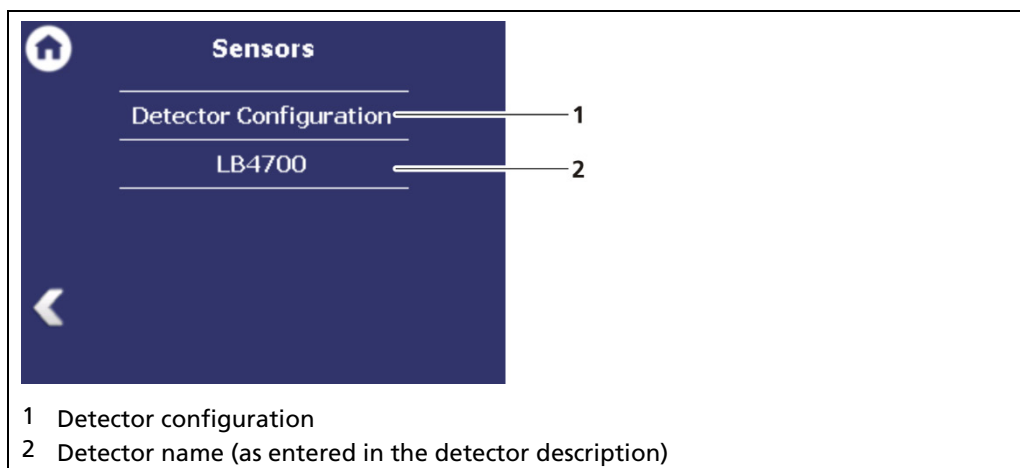
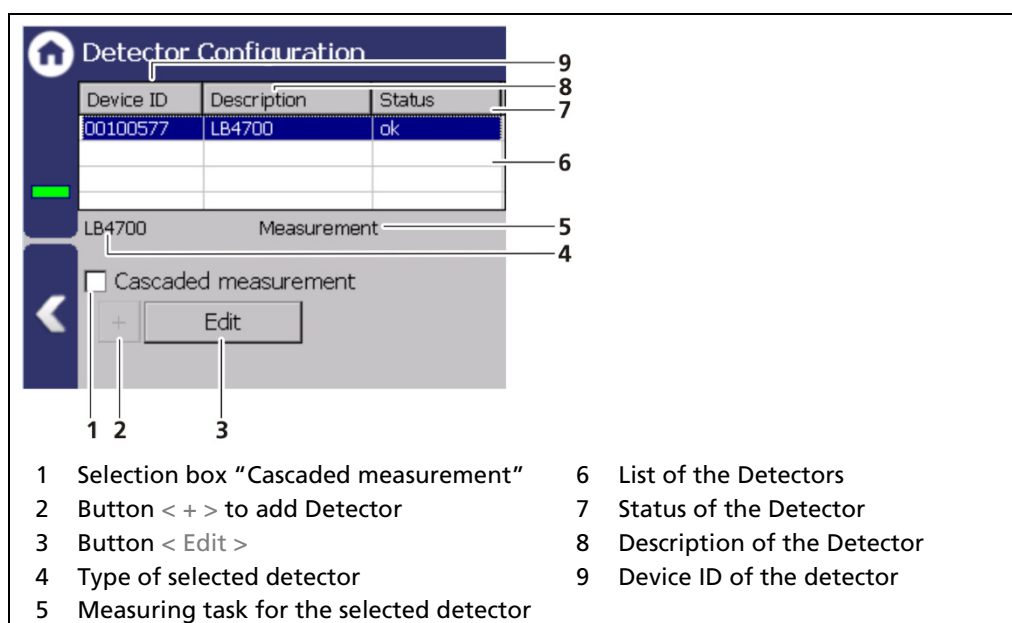

Fig. 53 Menu "Sensors"
Fig. 54 Detector Configuration
- Detector configuration (Fig. 53, item 1)
- Configuration of the respective detector (Fig. 53, item 2)
In the window "Detector Configuration" the detectors for the measuring system are added and configured. Only configured detectors are listed and shown in the menu (Fig. 53). When a detector is selected (Fig. 54, item 6), the detector type (Fig. 54, item 4) and measuring task (Fig. 54, item 5) are shown.
Clicking the box <Edit> (Fig. 54, item 3) selects the type of detector and changes the description. The boxes <+> and <-> can be used to add and remove detectors for cascading measurement.
In systems with a single detector the device ID is determined automatically and listed. The description can be edited by clicking on <Edit> (Fig. 54, item 3).
The settings of a configured detector are edited by selecting and clicking on <Edit> (Fig. 54, item 3).
Description	Detector description. Also used for error messages, logs and in the menu structure (Fig. 53).